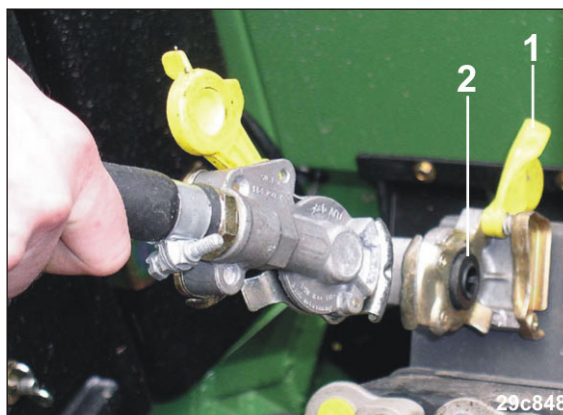

Fig. 134
2. Open the covers (Fig. 134/1) of the hose couplings on the tractor.
5. Fasten the hose coupling of the brake line (yellow) in compliance with regulations in the coupling marked yellow (Fig. 134/2) on the tractor.